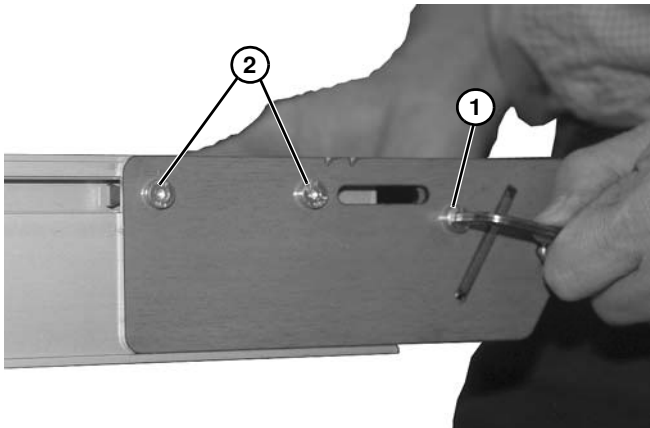

Figure 86
10. Use a wrench to tighten lower screw (**Figure 86, item 1**) to 3.4 Nm. Leave two fastening screws (**Figure 86, item 2**) loose for belt tensioning.